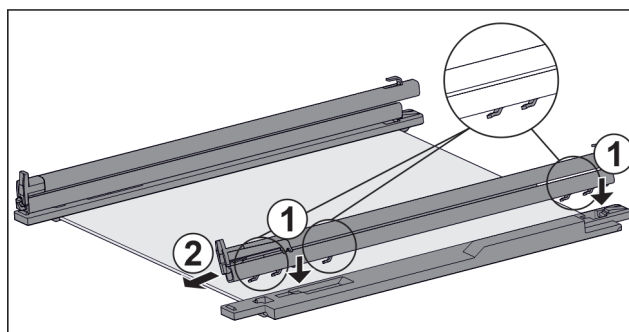

Fig. 133 Glass shelf with rails and retaining parts
- ▶ Place rail hooks onto the openings of the **left** retaining part. *Fig. 133 (1)*
- ▶ Push rail forwards. *Fig. 133 (2)*
- ▶ Place rail hooks onto the openings of the **right** retaining part. *Fig. 133 (1)*